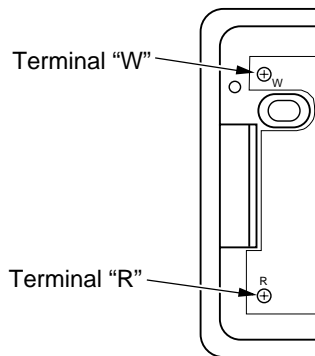

Figure 43 - Thermostat Base Terminals "W" and "R"
6. Connect one bare wire end to each terminal ("W" and "R") of the thermostat base (see Figure 43).